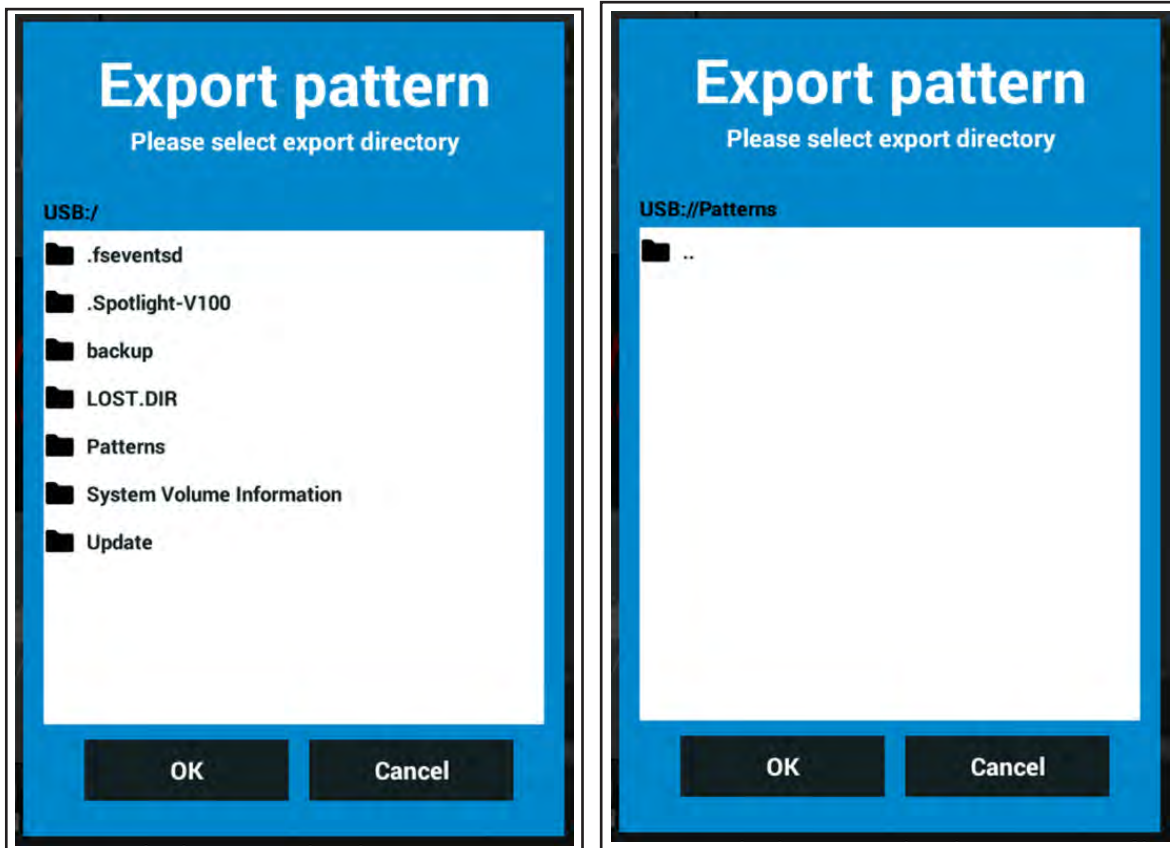

Figure 4-20. USB Export Directory and File Folder
3. Touch the “Export” button to open the USB file directory window and select the folder you want to save your patterns in (*Figure 4-20*). Press “OK” to Export the patterns to the USB.